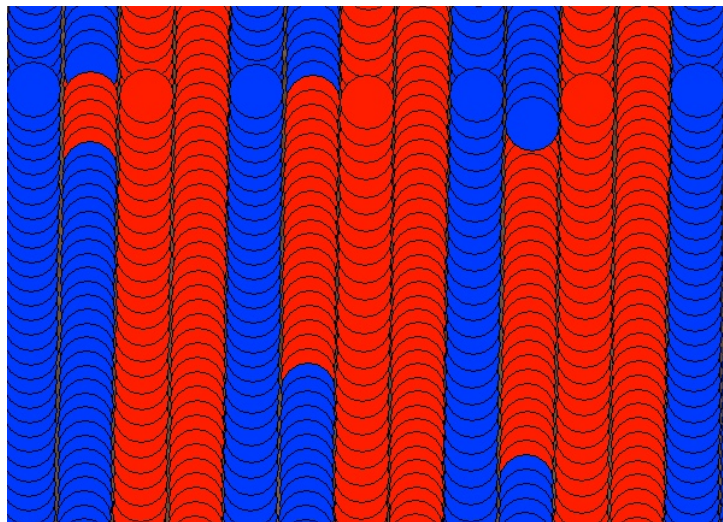
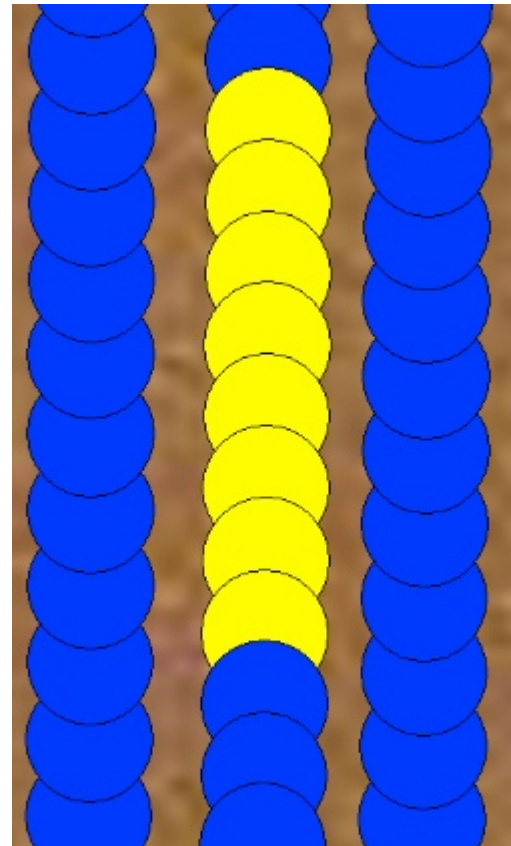

Fig. 2. Example of errors in automatically labeling yield data points with previously logged hybrid information (red = Hybrid A, blue = Hybrid B).
Fig. 1. Closeup view of yield data points depicting full (20ft) header widths (blue) and incorrect partial 17.5ft header widths (yellow).
Inaccuracies in perceived geo-position can result in inaccurate hybrid labeling of yield data points during harvest. Figure 2 illustrates several harvest passes in a field that were planted with a 16-row planter that had different hybrids in the two 8-row halves of the planter and were harvested with an 8-row combine. Sections of three harvest passes of 8 rows of Hybrid B (blue) were mislabeled as being Hybrid A (red).
- Some, but not all, mapping software programs allow you to visually display the logged yield data by their assigned hybrid names. That allows you to visualize the hybrid name changes throughout the field as illustrated in Fig. 2.
Fig. 1. Example of logged planter data (black circles = planter center) and the planter coverage file for a field planted with different hybrids in each half of the planter (red = Hybrid A, blue = Hybrid B).
NOTE: This view is "zoomed out" farther than that shown in Fig 1.
The consequence on yield estimates from inadvertent and erroneous changes in the logged header widths can be quite significant. Figure 1 illustrates a small section of a field where the yield monitor erroneously decreased the header width value from the full 20 feet (eight 30-inch rows of corn) to 17.5 feet (seven 30-inch rows) for a short distance.
Fig. 2. Closeup view of same yield data points as Fig 1, depicting estimated yields. Average yield for the 17.5ft header width points was 263 bu/ac while the average yield for the surrounding normal 20ft header widths was 223 bu/ac.
The incorrect reduction in header width for those data points caused the yield monitor to overestimate yield per acre for the affected data points because the estimated harvested area for those points was erroneously smaller. Figure 2 illustrates the estimated yields for the same individual data points shown in Fig. 1. The average estimated yield for the 8 data points with incorrect header width values was 263 bu/ac. The average estimated yield for the surrounding data points with the correct 20ft header width values was 223 bu/ac. The data points were logged every second at an average speed of 5.7 mph and so are approximately 8 feet apart, meaning that there is approximately 64 feet of incorrect header width values and, subsequently, incorrect yield data.
- Some, but not all, mapping software programs allow you to map the logged data by their header / swath width values. That allows you to visualize the header width changes throughout the field as illustrated in Fig. 1.